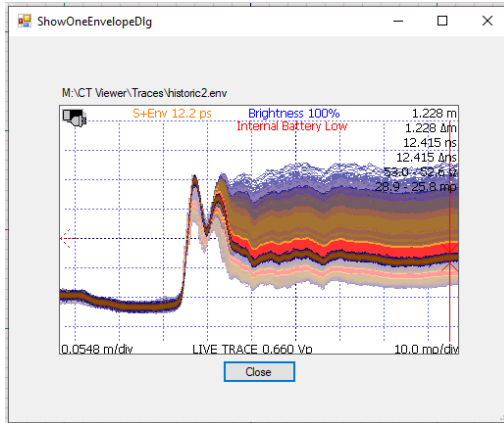

Figure 5.11 Viewing an envelope plot screenshot.
2. A list of envelope plot screenshots appears. Select the envelope plot to view and click *Open*. The envelope plot will appear on-screen. See Figure 5.11.